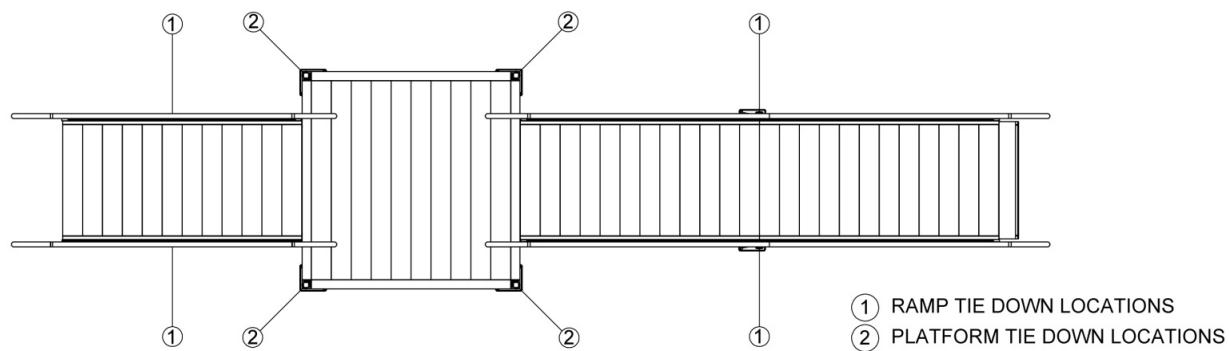

FIG. 7.10
- 7.7.1. The installer, based on field conditions, will determine the exact location of the tie downs. Generally, they should be positioned opposite one another as shown (FIG. 7.10).
- 7.7.11. If used on a single ramp, install tie downs approx. in the center using eye bolts (FIG. 7.10).